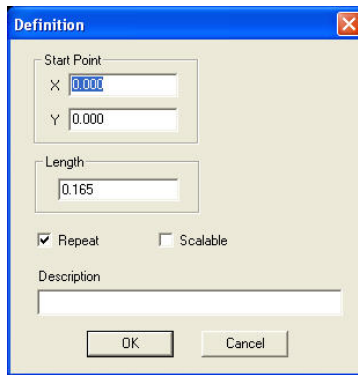

Figure 16-24. Defining Parameters for a New Line Style
- Click the **Hot Button**  at the bottom of the dialog box. The **Definition** dialog box appears (Figure 16-24).